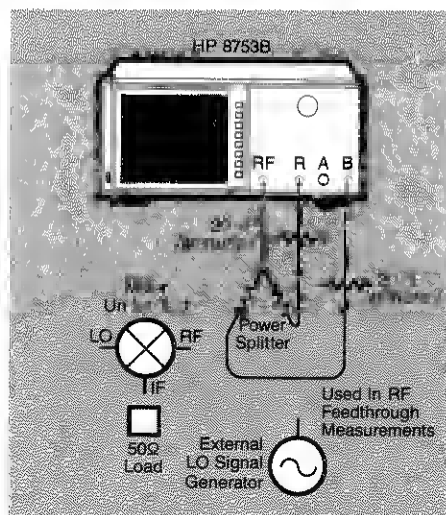

Figure 18. Block diagram for an isolation measurement.
The equipment configuration necessary to measure isolation (feedthrough) between mixer ports is identical to that used in a transmission (B/R) measurement, shown in figure 18.
1. Connect the hardware as shown in figure 18.